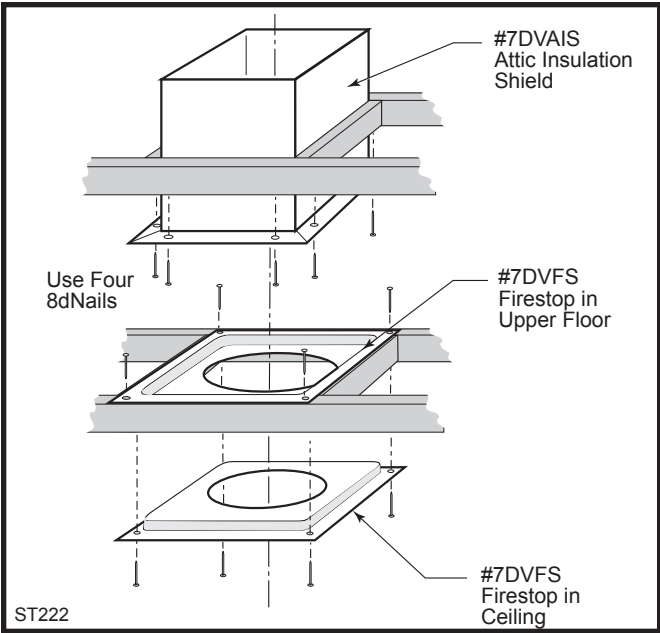

Fig. 31 Install firestops and attic insulation shield.
6. Install firestop(s) #7DVFS and Attic Insulation Shield #7DVAIS as needed. (Fig. 31) If there is a room above ceiling level, a firestop must be installed on both the bottom and top sides of the ceiling joists. If an attic is above ceiling level, an attic insulation shield must be installed.